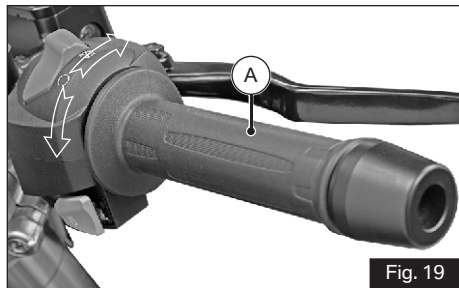

Fig. 19
**Throttle Twist Grip (ref. Fig. 19)**